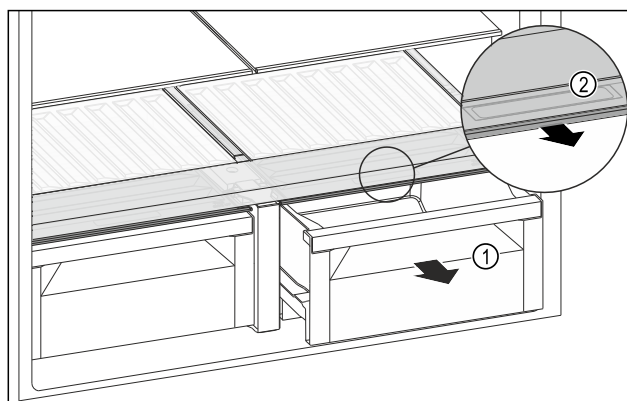

Fig. 129
- ▶ Pull out the drawer Fig. 129 (1).
- ▶ Grasp the recessed grip Fig. 129 (2) on the compartment lid and pull the compartment lid forwards at the same time.